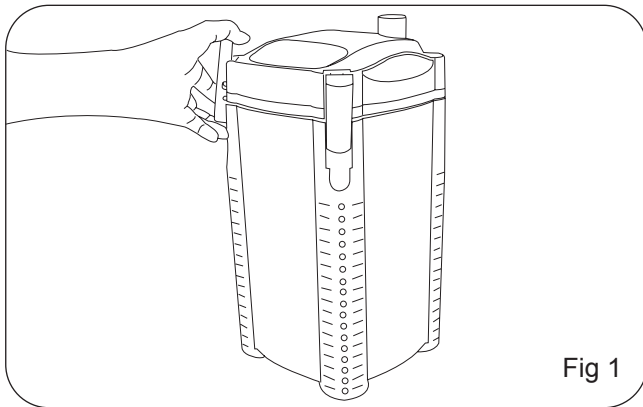

Fig 1
1. Open the filter unit by releasing the 4 clips located on the corners of the filter, then lift the head unit off the canister body. Fig 1